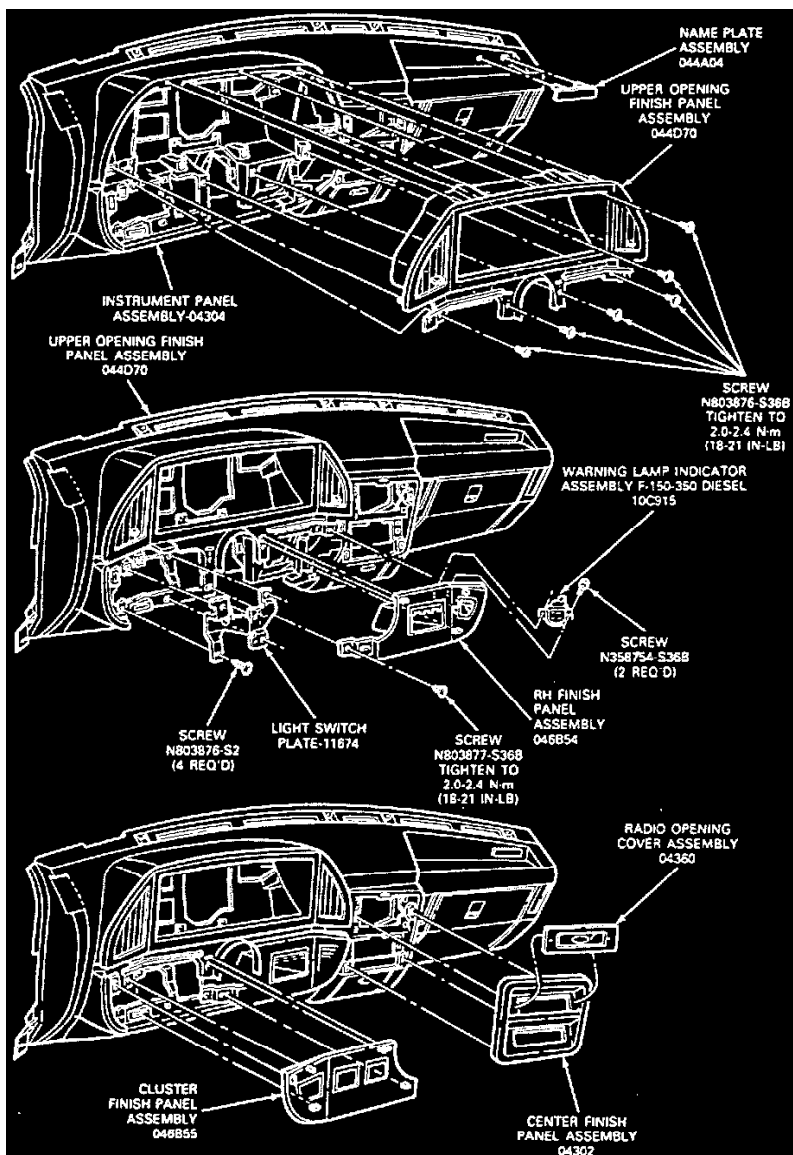

Fig. 7 Exploded View Of Cluster Opening & Finish Panels. 1988-91 Bronco & F-series.
6. Disconnect blower switch and lever assembly, A/C control switch and push button assembly and the control assembly bulb, **Fig. 7**.